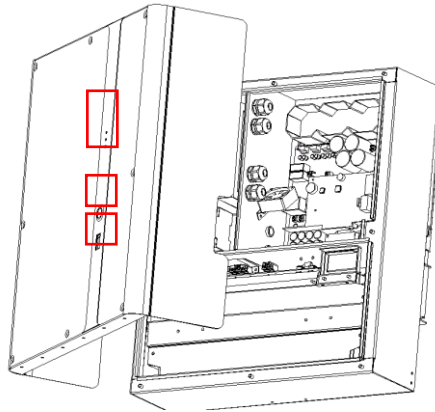

Figure 2.15 Re-cover the Upper Cover Plate
Step 10: the wiring is completed, please connect the wiring harness on the back of the upper cover plate. Then re-cover the B3 upper cover plate, use the M5 internal hexagonal wrench to tightly lock the upper cover screw, and then install the white plug, as shown in Figure 2.15.